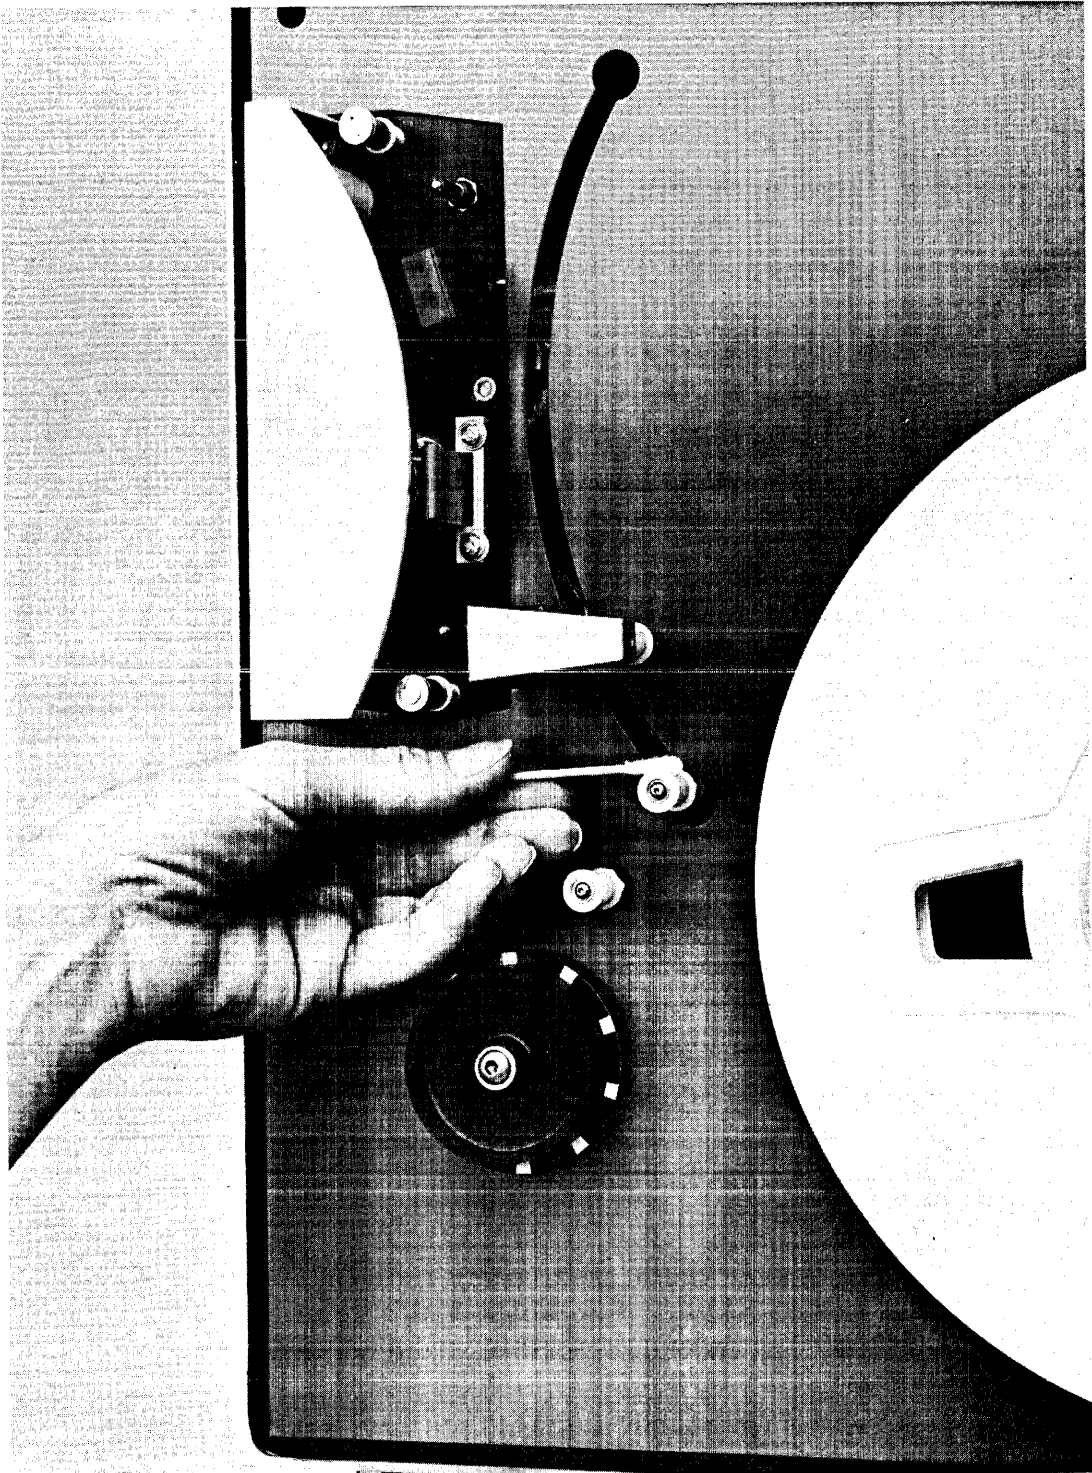

Figure 6. Cleaning the Roller Guides
6. Clean the roller guides (Figure 6), rotating them to be sure all surfaces are cleaned. Dry with a clean, lint-free cloth.